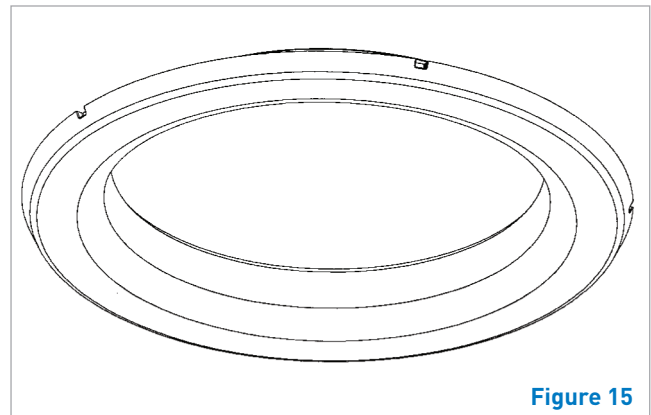

Figure 15
- Finally, take the diffuser cover ring and ensure that the protruding edge sits inside the recessed area of the diffuser and press firmly towards the ceiling until all of the location points around the edge are correctly engaged onto the edge of the diffuser (Figure 15).